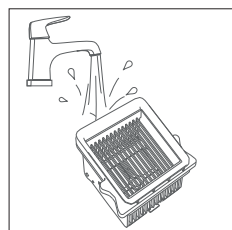

Fig. 19 – Cleaning the filter
- ▶ Also clean the EPA 10 filter under lukewarm running water (see Fig. 19).